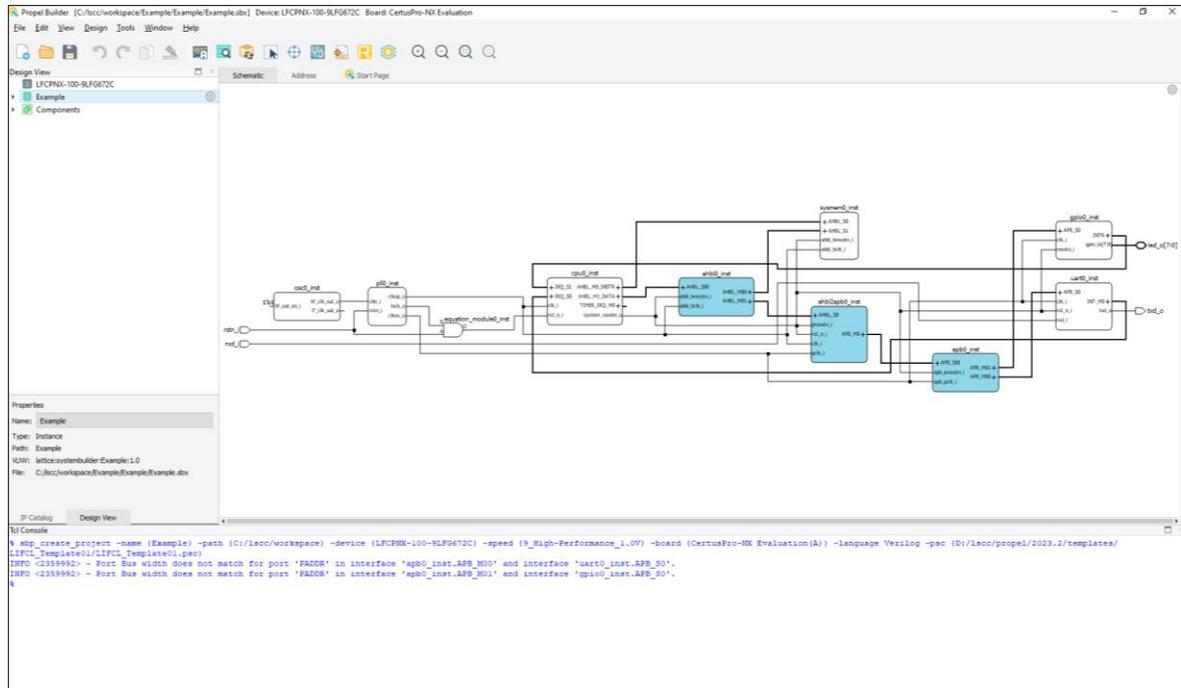

Figure 2.9. Propel Builder GUI showing Template SoC Project
- Click **Finish**. The Propel Builder GUI opens (Figure 2.9).